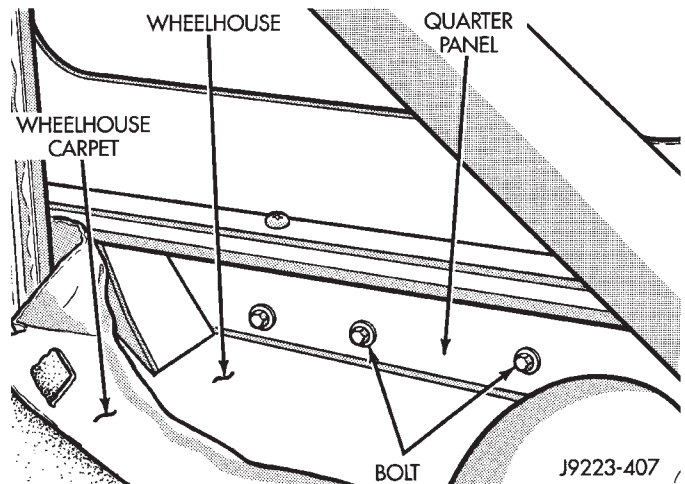

Fig. 55 *Upper Retainer Bracket Removal/Installation*
(1) For convenience, lift the vehicle to a comfortable height on a hoist. Support the vehicle.
(2) Remove the rear bumper fascia. If necessary, refer to the removal procedure.
(3) Loosen the fascia support bracket.
(4) Remove the retaining bolts and the support brackets from the quarter panel (Fig. 55).
(7) Remove the extension panel from the quarter panel and the support brackets (Fig. 55).
(2) Position the support brackets on the quarter panel and install the retaining bolts (Figs. 55 and 56). Tighten the bolts to 6 N·m (53 in-lbs) torque.